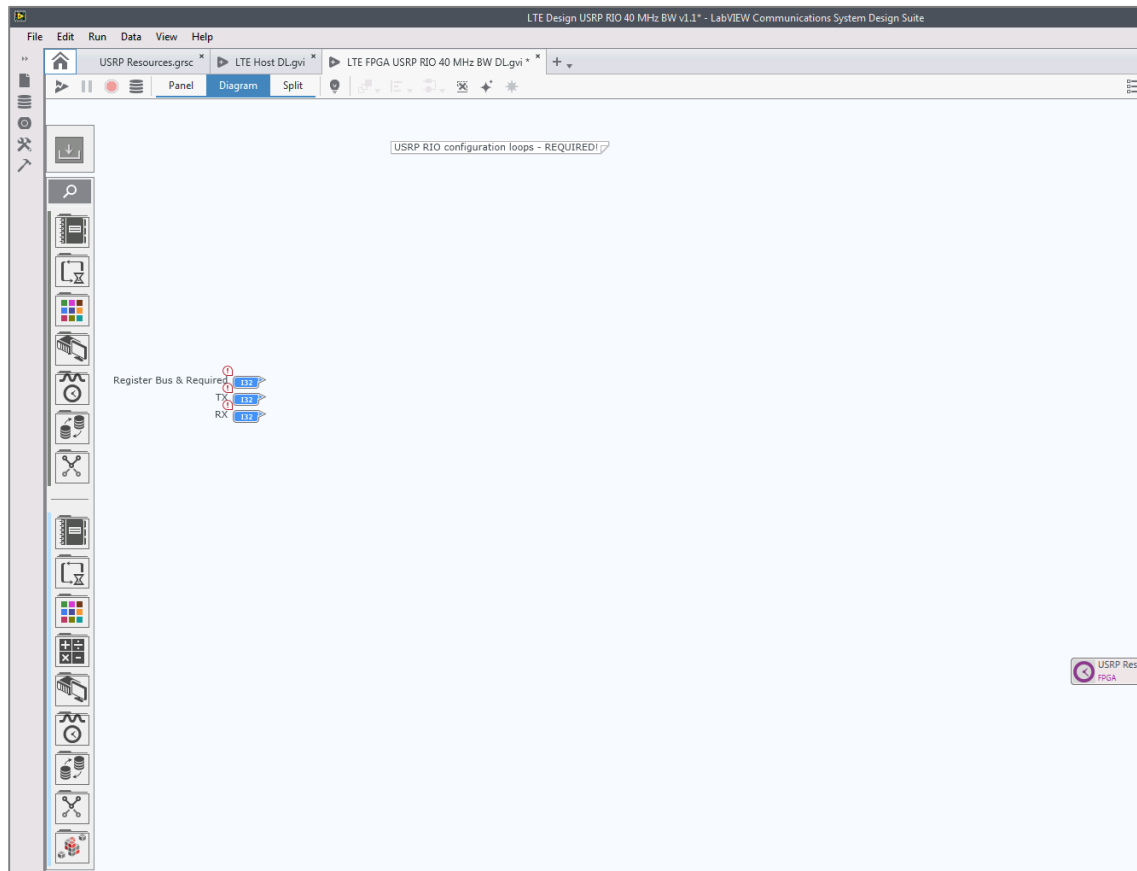

Figure 33 - Deleting the Clock-Driven Loops for interfacing with the USRP
7. Delete the three Clock-Driven Loops used for interfacing with the USRP as shown in Figure 33.